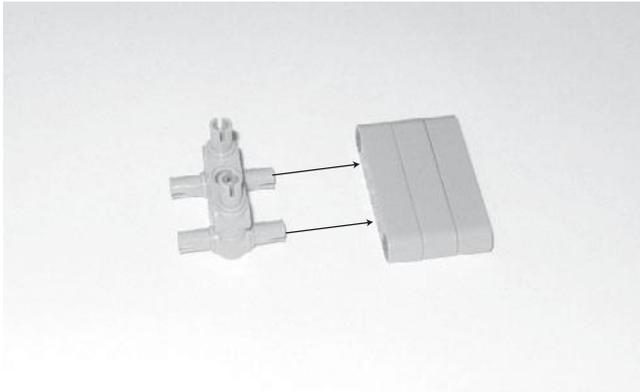

Figure 12.8
Step 3: Connect the pair of 3M pegged blocks to the three 5M straight beams, as shown in Figure 12.8.